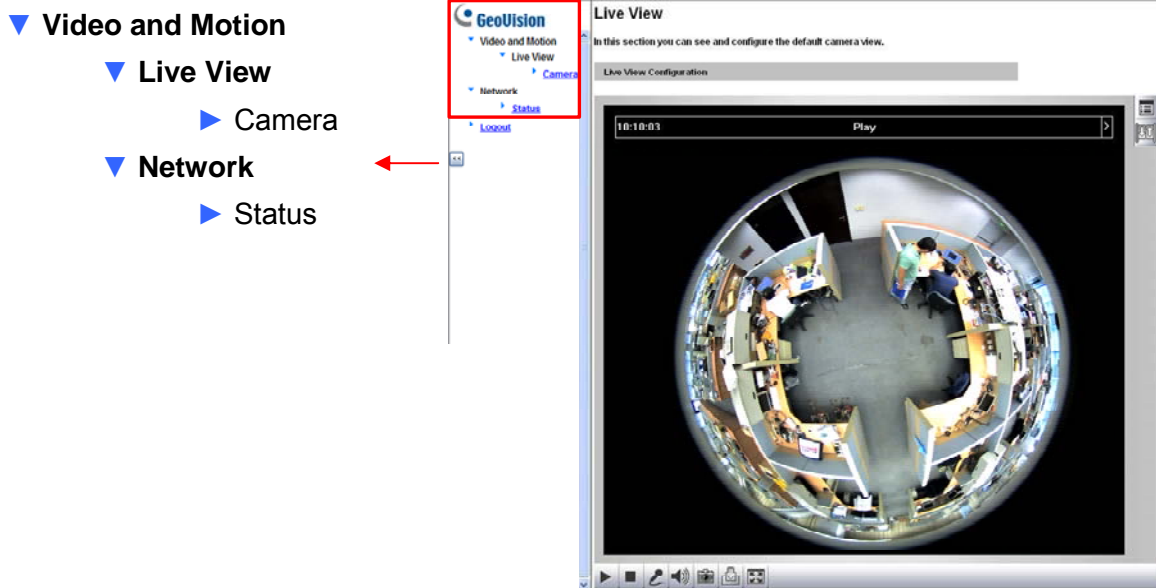

Figure 3-2
3. A video image, similar to the example in Figure 3-2, is now displayed in your browser.
The camera can process one video stream in two different codec and image settings. In the Administrator mode, both streams are available. Click Streaming 1 or Streaming 2 in the left menu to access the live view. In the Guest mode, only one stream is available, as shown in Figure 3-2.